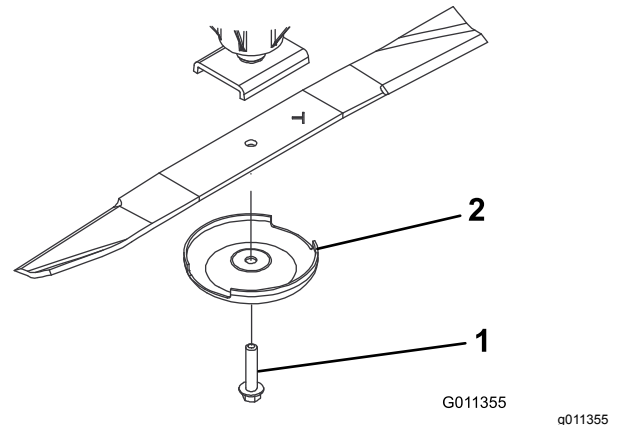

Figure 102
3. Remove the blade bolt, anti-scalp cup, and blade from the spindle shaft (Figure 102).